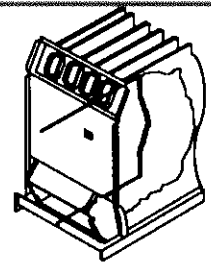

FIGURE 31
- 8— Insert a 2 ft. (600 mm) steel rod that has a 20 in. (508 mm) length of chain attached to one end into top opening of heat exchanger. See figure 31.